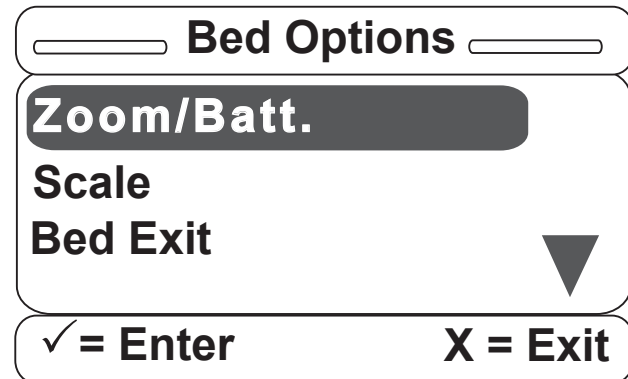

Figure S-5
5. Once the Bed Option item is selected, the menu in Figure S-5 will be displayed on the screen. **Each option must be set to OFF, ON or a variety of the option (i.e., Zoom/Batt. or Bed Exit). Configure each option in the order presented on the screen (i.e., set the Zoom/Batt option before the Scale option, which should be set before the Bed Exit option, which should be set before the Awareness option).**